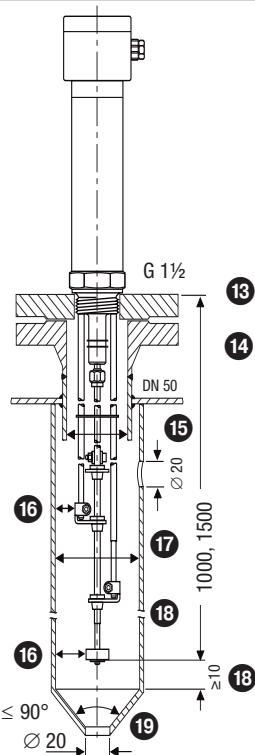

Fig. 6 Protection tube (provided on site) if electrode is used as internal water-level limiter
- Make sure that the air distance between the electrode tips and earth (flange, vessel wall) is not less than 14 mm. **Fig. 6 - 7**.